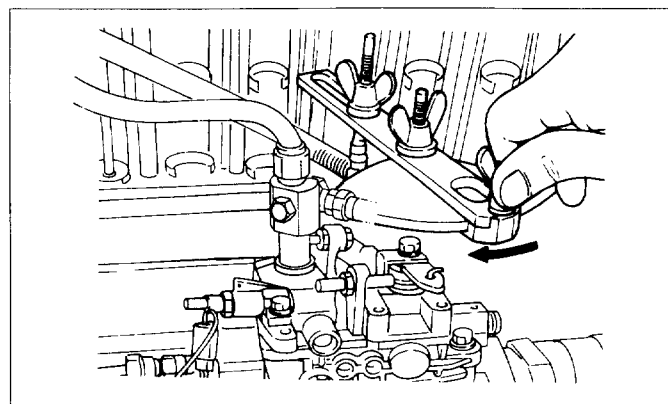

Fig.15-25 Setting load sensing end
(2) Adjusting The End of Pressure Drop
With the pump running at the specified speed, slowly move the adjusting lever from the idle position toward the full load position. Lock the adjusting lever at the position where the internal pressure starts to increase. (See Fig.15-25) If the adjustment is made it will be necessary to repeat (1) of 15-8.